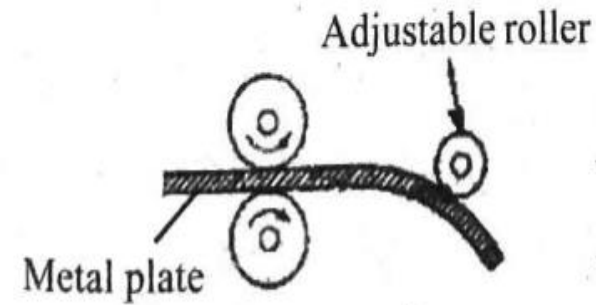

Fig. 2.12 Roll bending
- A rotary type, roll bending machine is shown in fig.2.12.